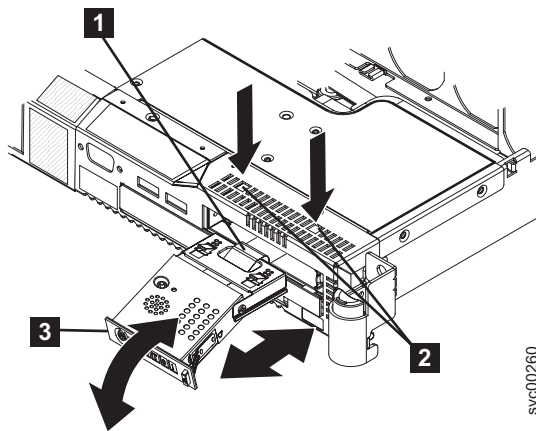

Figure 209. Removing the light path assembly
10. Press the two release buttons (2 in Figure 209) that are visible through the top of the node and pull the light path assembly (3) completely out of the node. Carefully pull the ribbon cable (1) through after the light path assembly.